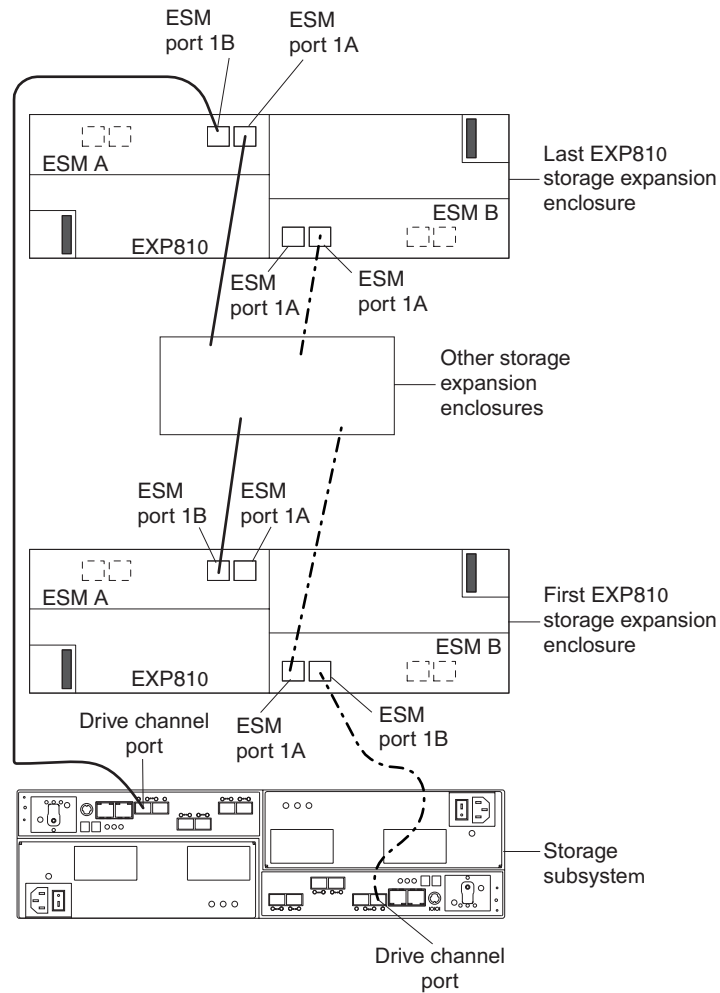

Figure 44. DS3950 drive ports connected to EXP810 ESM ports labeled 1B
10. The controller drive ports of the DS3950 storage subsystem controllers must always be connected to ports labeled 1B in both the right and left ESMs of the EXP810s in the redundant drive channel/loop pair that is connected to the DS3950 storage subsystem. Figure 44 on page 69 shows the location of the ports.